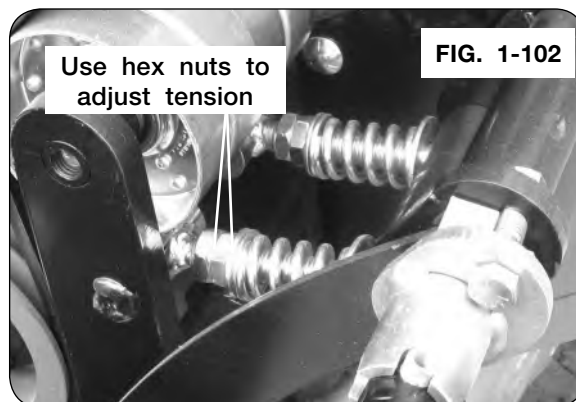
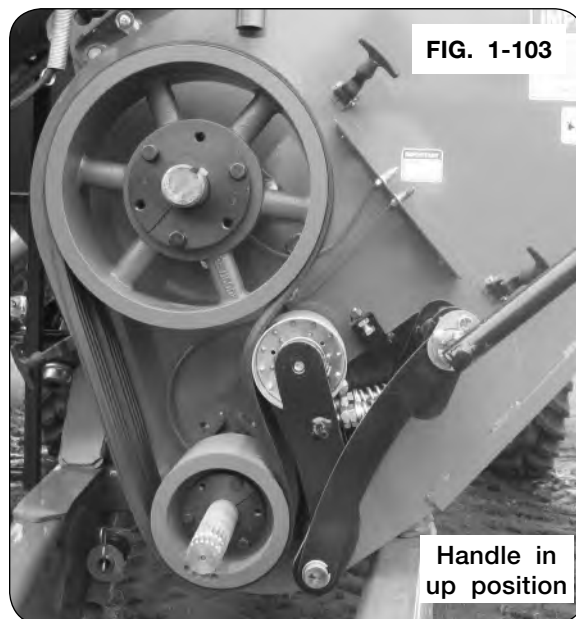

FIG. 1-102
FIG. 1-103
25. Belt tension is adjusted with hex nuts below the spring, FIG. 1-102. All belt tension **MUST** be released from linkage. Loosen outer hex nut and adjust inner nut to establish a 3 1/16" pre-load dimension between the heavy washers. Tighten the outer hex nut against inner nut to lock position. Check the lower belt pulley to ensure belts are aligned in their grooves and with the tensioner handle, engage the roller/idler linkage against the belts and over-center stop. The compressed spring should now be approximately 1 3/4" between the washers and generating a force of approximately 480 lbs. (218 kg.) against the belts. Release and tighten belts multiple times to confirm positions and final adjustments. See FIG. 1-103 and FIG. 1-104.